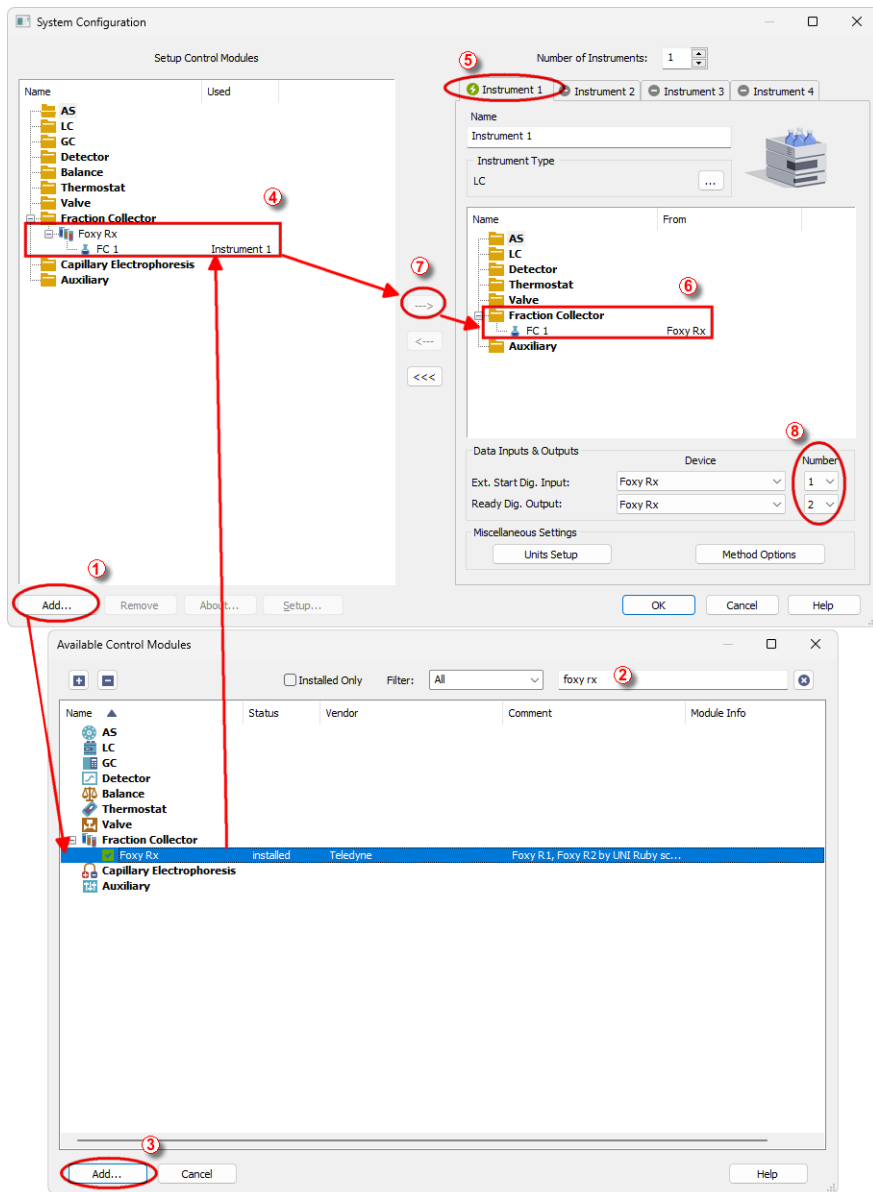

Fig. 3: How to Add Teledyne Foxy R1 / R2 Control Module
- Press the **Add** button (① on **Fig. 3** on pg. 4.) to invoke the *Available Control Modules* dialog.
- You can specify the search filter (②) to simplify the finding of the driver.
- Select the correct item and press the **Add** (③ on **Fig. 3** on pg. 4.) button. Each device with already created UNI profile should have its own item named accordingly in the *Available Control Modules* dialog.